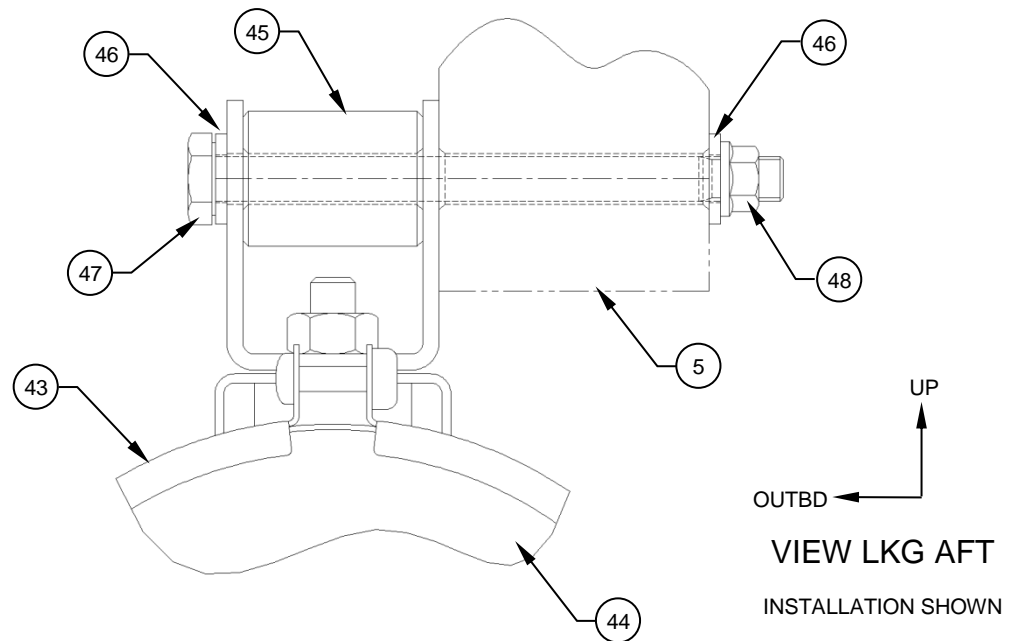

Figure 7
18. Install the Housing, Assys (Item 43) on the Mounting Block, Assys (Items 4 & 5). Reference Figures 7 & 8.